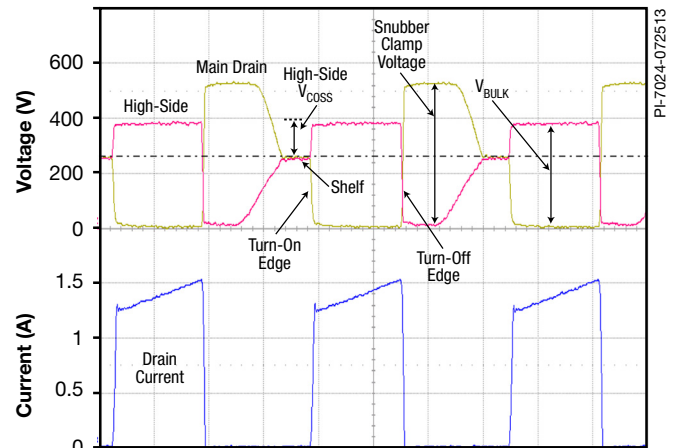

Figure 28. Typical Full Load Waveforms of the Main Drain. High-Side MOSFET Source, and Drain Current.
Repeat the measurements at full load. Be cautious of over-heating the power supply and use a strong fan. Measure the source voltage (HS) of the high-side MOSFET at turn-on for each steady-state switch cycle (Figure 28). It should be  $< 40\%$  of the bulk voltage. Calculate and verify the  $K_p$  from the current waveform and verify with the spreadsheet. Also check the peak current at peak load – do not dwell at peak load for more than several seconds to prevent over-heating.